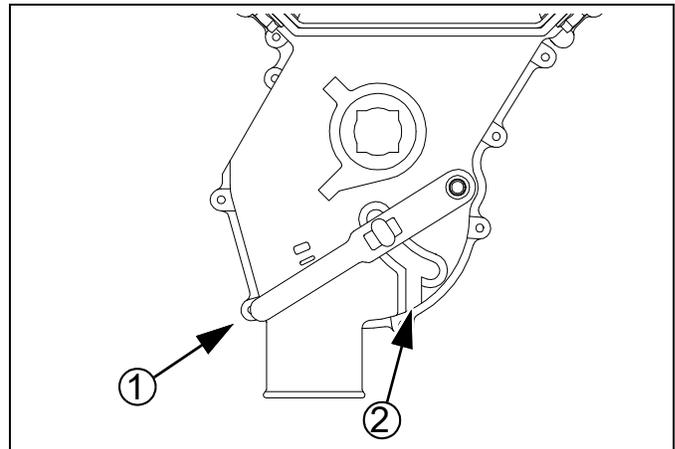

Figure 31
Refer to Figure 31, which depicts the seed cup door handle ① in a normal operating position.
1. Set the Seed Rate Handle to zero (0). This moves the seed cup sprockets out of the seed path.
3. At the seed cup for that row, pull the door handle ① out of the operating detent range, and swing it down to position ②.